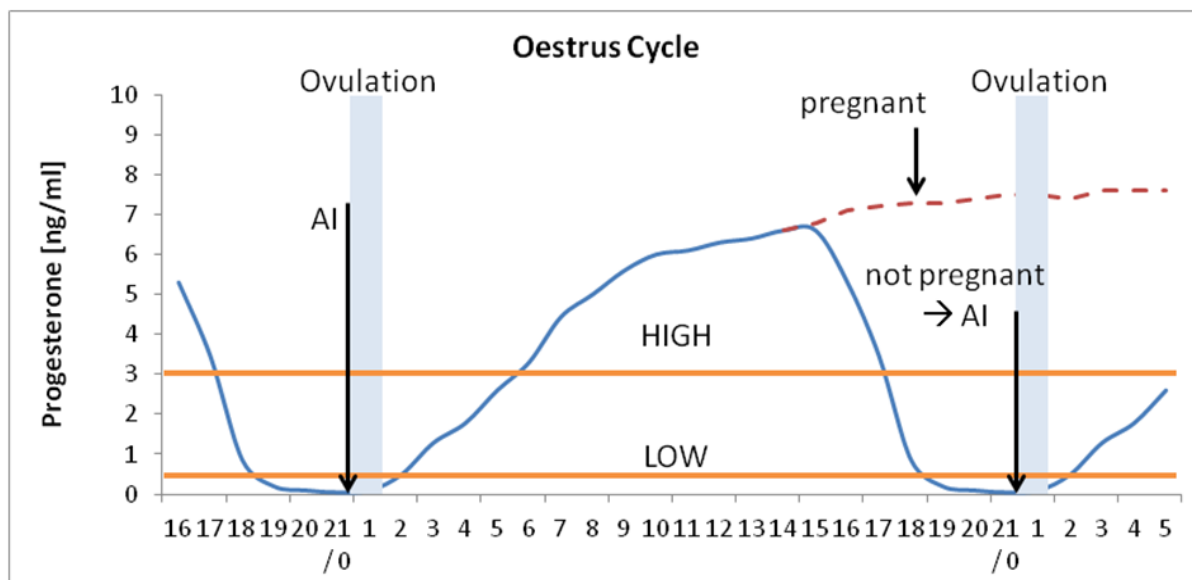

Figure 1: Progesterone levels during the oestrus cycle of a cow. AI should be performed when progesterone levels are low.
The determination of the progesterone level in dairy cattle is a valuable tool for efficient herd management. During the bovine heat cycle the level of progesterone (P4) changes significantly (Figure 1). On day 0 of the oestrus very low progesterone levels can be detected due to an inactive corpus luteum. The corpus luteum develops from an ovarian follicle during the luteal phase leading to production of progesterone and therefore increasing progesterone levels. These high levels even increase further in case of pregnancy after day 20 or drop again indicating the beginning of a new cycle. Consequently, the determination of the progesterone level in milk can help in maintaining an accurate time management of artificial insemination (AI) of cows.